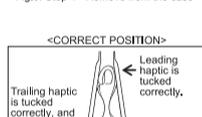

Fig.9: Step 4 - Remove from the case
- Remove the injector from its case (Fig.9). Go immediately to Step 5 once removed.